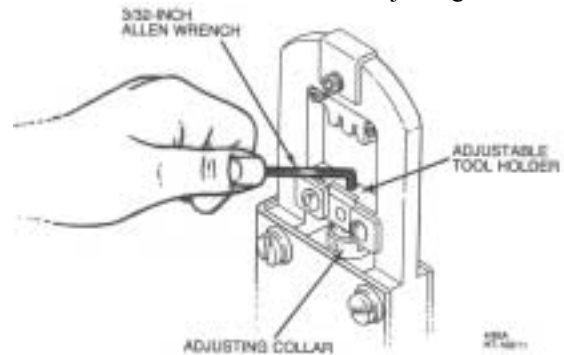

Figure 11
- 2 Insert a 3/32-inch Allen wrench into the hole in the adjustable tool holder and into the socket head setscrew (see Figure 11). Turn the setscrew 1/4 turn counterclockwise to unlock the adjusting collar.